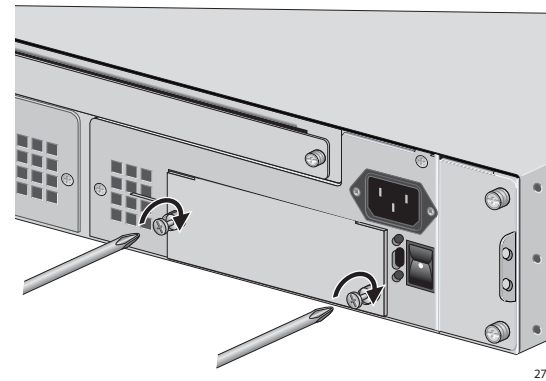

Figure 7. Tightening the Captive Screws on an AT-CV5PNL2
- Use a Phillips screwdriver to tighten the captive screws, as shown in Figure 7.